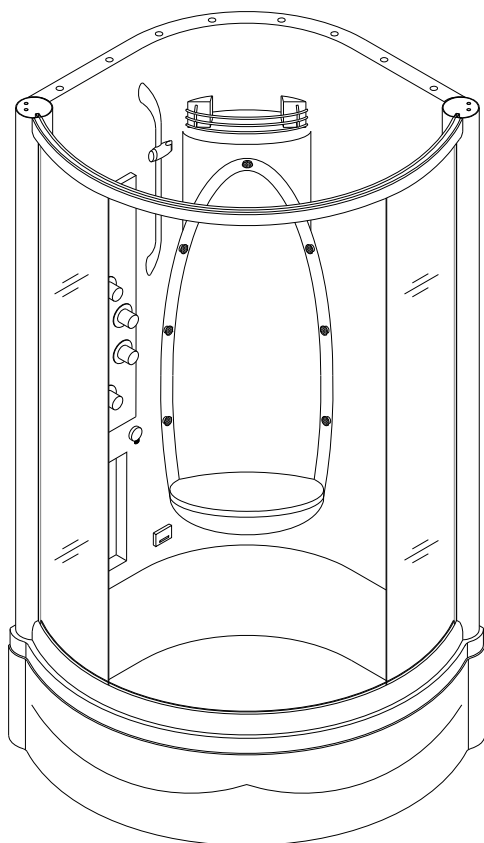

Fig 9
9. Clean the front threshold of the tray and apply a layer of silicone. Put the glass enclosure assembly onto the tray and adjust the position. Use **Flat head screw ST4.2x20 with washer (14)** to connect the vertical posts and back panel. See Fig 9 and Fig 10 for details.